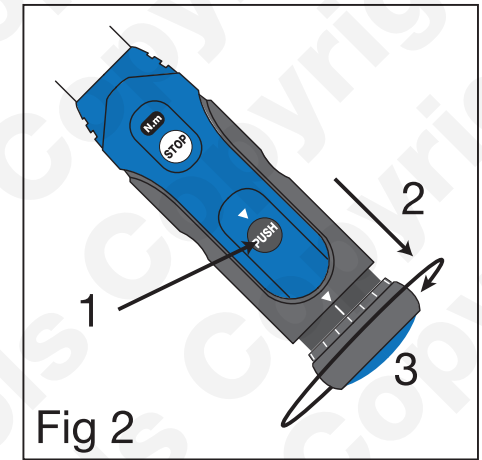

Fig 2
1. Push ferrule release button (D).
2. Pull back adjustment ferrule (E).
3. Turn adjustment ferrule clockwise to increase (anticlockwise to decrease) the torque setting which is displayed in the adjustment indicator sight window (C).
5. When finished using the instrument, wind back the adjustment ferrule until the legend STOP appears in the adjustment indicator sight window (refer to **Figure 2**). Then replace instrument in case.
- When finished using the instrument, wind back the adjustment ferrule until the legend STOP appears in the in the adjustment indicator sight window (refer to **Figure 2**). Take care not to turn the adjuster lower than the STOP setting or the mechanism may be damaged.